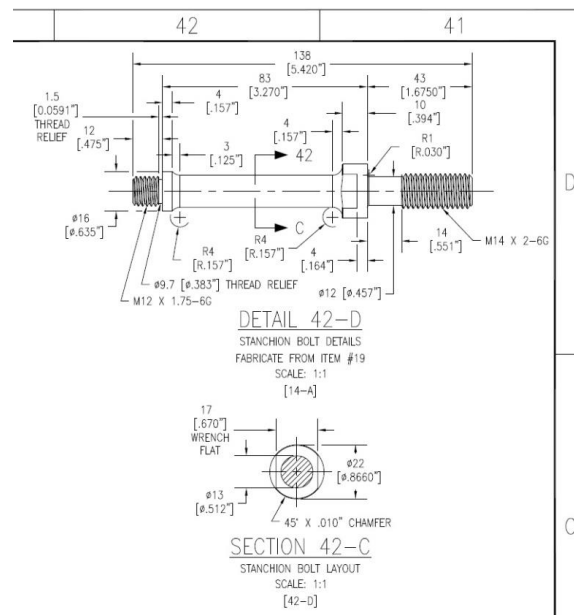

FIGURE 2: CALLOUT IDENTIFICATION FOR CROSS-SECTIONAL VIEWS (NOT TO SCALE – FOR ILLUSTRATION PURPOSES ONLY)
3.28.1 Cross-section views shall be identified by the zone number where the cross-section is detailed. The cross-section leaders on the source object shall be identified by the Callout location of the detail. See Figure 2.